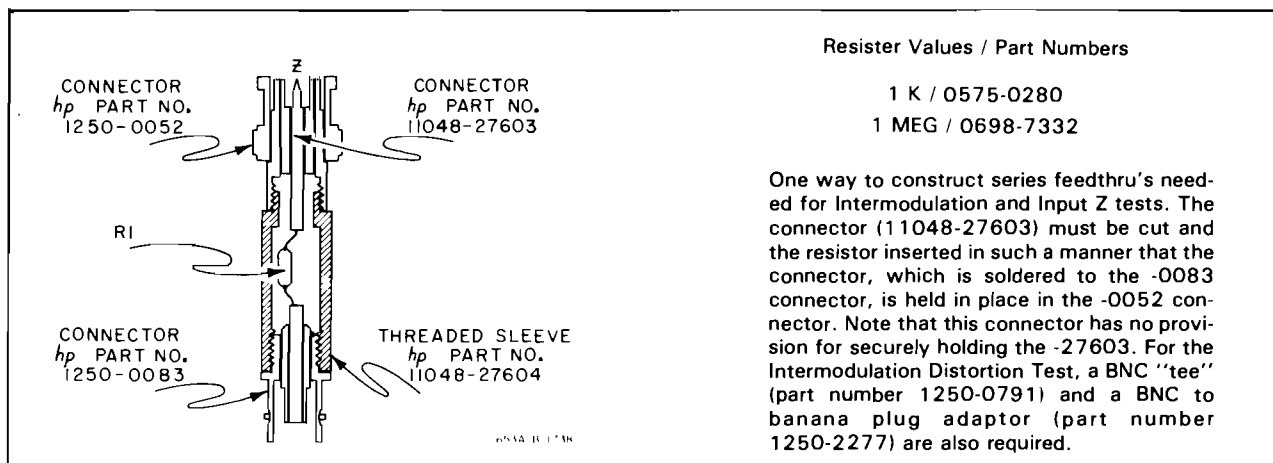

**Figure 4-5. Test Set-up Intermodulation Distortion.**
- b. The **Intermodulation Distortion** test requires the use of 1K ohm isolation resistors (see Figure 4-6. A small box with the appropriate connectors works well for this. Note that the 50 ohm termination required for the synthesizer must come before the isolation resistor. (Also see Figure 4-5).
- e. The **Input Z** (impedance) test requires a 1 meg series load. This load must come after the 50 ohm termination required for the synthesizer. (See Figure 4-5.)